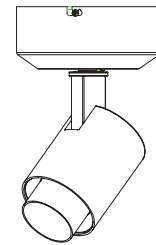

Fig 4
**Step 3:** Reinstall front cap back in place. Ensure torsion spring securely goes back into spring slot on fixture. (See Fig 4)